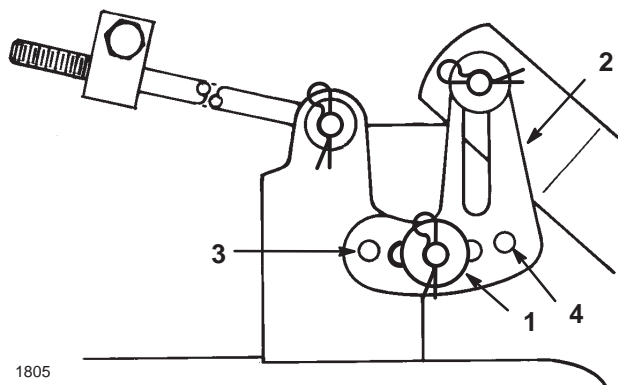

Figure 12
- Remove the hairpin cotter and washer from the leveling bracket (Fig. 12). To level the blade(s), reposition the leveling bracket in a different hole and install the washer and hairpin cotter. (Fig. 12). A front hole lowers the blade height and a rear hole raises its height. Adjust both sides as required.